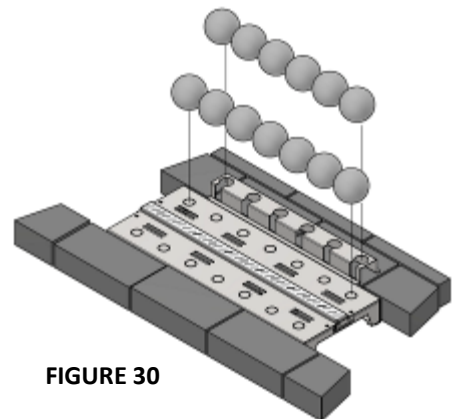

FIGURE 30
- 2-Tier and 3-Tier installations start with removing the knockouts on the burner itself and using the FIREBALL stand. Recommend removing the knockouts with pliers. Rock the knockouts back and forth until they separate from the burner. Place FIREBALL stand on top of fire brick. Stand does not rest on burner. **FIGURE 23—FIGURE 30**